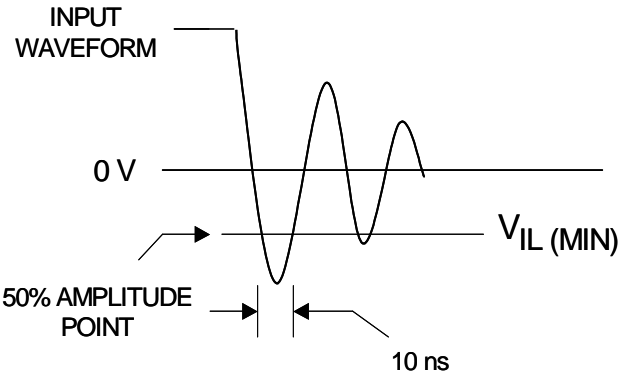

Figure 6: Input Signal Waveform
1. -1.0 Volts for a duration of 10 ns measured at the 50% amplitude points for Input-only lines (see Figure 6 on page 28).